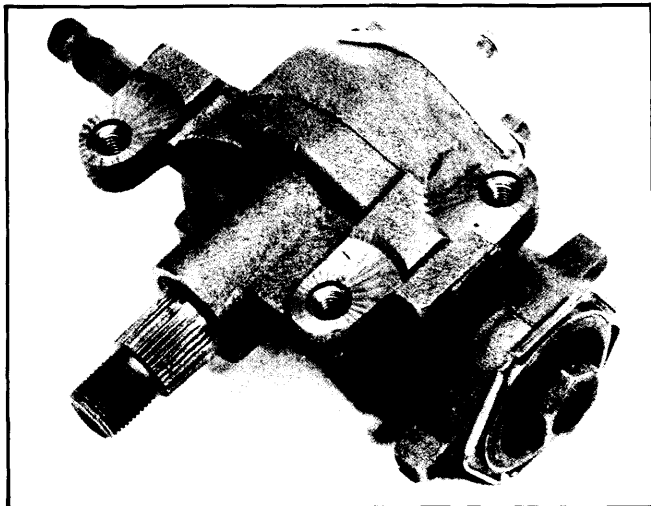
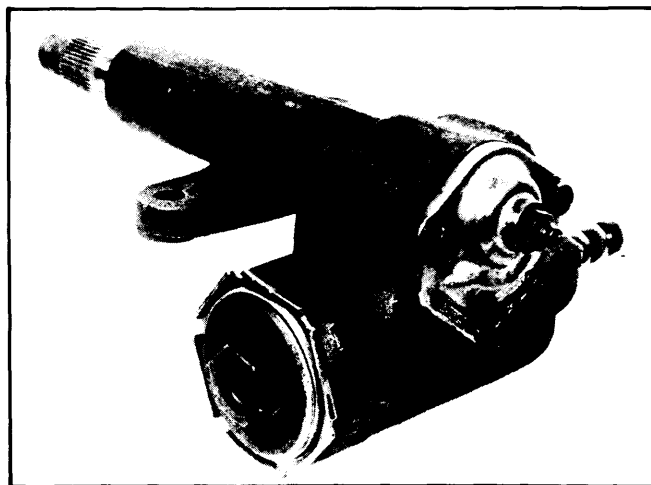

Fig. 1 Horizontal Sector Shaft Model of Saginaw Recirculating Ball Type Steering Gear
Fig. 2 Vertical Sector Shaft Model of Saginaw Recirculating Ball Type Steering Gear
**NOTE** – Overhaul procedures sometimes vary between vertical and horizontal sector shaft steering gears. These differences are noted in text. To identify the two different gears, see Fig. 1 and Fig. 2 at the beginning of this article.